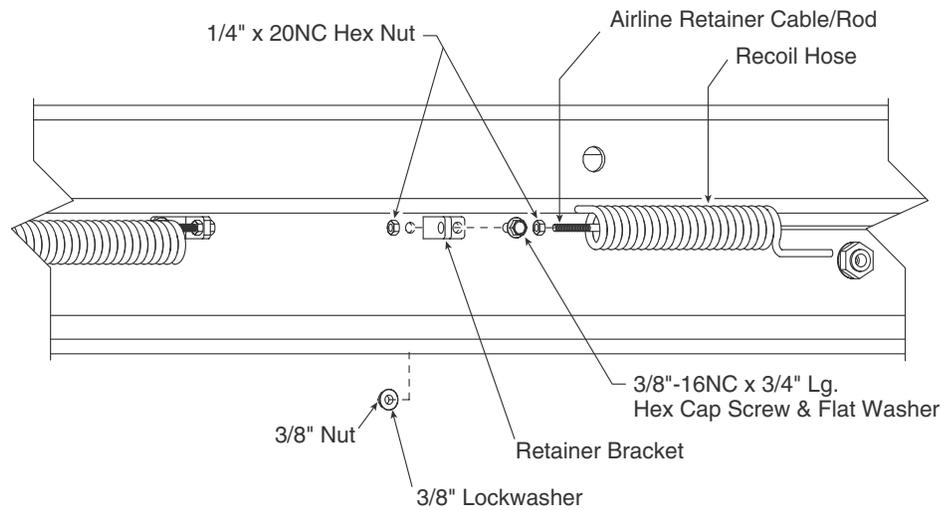

Fig. 34
- A. Attach retainer brackets for the rear recoil hose with 3/8"-16NC x 3/4" Lg. hex cap screw, flat washer, lock washer and nut, Fig. 34.
- B. Insert retainer cable through coils of recoil hose, Fig. 34. Run a 1/4"-20NC hex nut down onto each end of retainer cable. Insert each end of cable into retainer brackets. Secure each cable end with another 1/4"-20NC hex nut. Tighten jam nuts, Fig. 34.
- A. Insert retainer cable through coils of recoil hose, Fig. 34. Connect one end of recoil hose to coupling welded on rolling jack, Fig. 37 and 38.